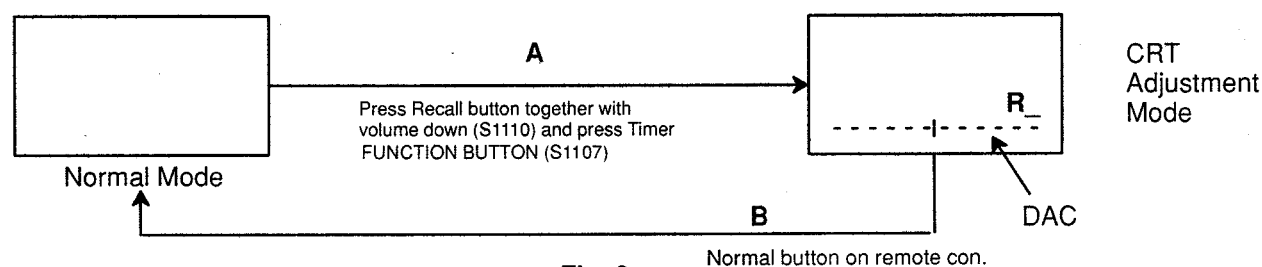

Fig. 9a.
Press the Function button (S1107) to select the required adjustment to be adjusted as shown in Fig. 9a. (Please refer to procedure on page 11).
| <p>CRT CUT-OFF</p> <p>1. Input a flat white Field signal, and set Contrast to maximum.</p> <p>2. Connect an oscilloscope to TPY 1 (Green CRT drive) and TPY 2 (Ground). TPY 1 and TPY 2 are located on the Y-PCB (CRT neck panel).</p> <p>3. Push the Volume Down (S1110) together with RECALL button to enter factory mode & press "TIMER" button on the remote control to select CRT ADJUSTMENT Mode (shown in Fig. 9a on page 7). "CHK" will appear on the screen.</p> <p>4. Press the Function button (S1107) FOUR times to select "BR " (meaning " brightness "). Note that repeated pushing of the Function button cycles through the CRT adjustment as shown in Fig. 16.</p> <p>5. WHILE " BR " IS STILL ON SCREEN, set the screen control to minimum by turning it anti-clockwise, and use the Volume " up " or " down " button – (S1110) and S1111) to set the DC=0V to video level at 140V, as shown in Fig. 17.</p> <p>6. Advance the screen control sufficiently to see the OSD. WHILE " BR " IS STILL ON SCREEN, (push the Function button to bring it up again if necessary), push the "TIMER" button on the remote control. This will collapse the vertical scan.</p> <p>7. Slowly adjust the screen control such that one of the R, G or B beams just appears, across the centre of the screen, (Fig. 19). THIS IS THE SETTING POINT FOR THE SCREEN CONTROL. Note which colour appeared, and DO NOT ADJUST THE LOW-LIGHT SETTING FOR THIS PARTICULAR COLOUR IN THE FOLLOWING PROCEDURE.</p> | <table><tr><th>PRESS S1107</th><th>OSD</th><th>MEANING</th></tr><tr><td>①</td><td>R₋</td><td>RED LOWLIGHT</td></tr><tr><td>②</td><td>G₋</td><td>GREEN LOWLIGHT</td></tr><tr><td>③</td><td>B₋</td><td>BLUE LOWLIGHT</td></tr><tr><td>④</td><td>BR</td><td>SUB BRIGHTNESS</td></tr><tr><td>⑤</td><td>R₊</td><td>RED HIGHLIGHT</td></tr><tr><td>⑥</td><td>B₊</td><td>BLUE HIGHLIGHT</td></tr></table> <p>Fig. 16</p> <p>Operation of the Function Button (S1107) in CRT Adjustment Mode</p>  <p>Fig. 17</p> <p>Sub – bright adjustment</p>  <p>PUSH "TIMER" BUTTON (S1101) WHILE " BR " IS STILL ON SCREEN TO COLLAPSE THE FRAME SCAN.</p> <p>Fig. 18</p>  <p>Fig. 19</p> <p>ADJUST SCREEN UNTIL ONE COLOUR JUST APPEAR.</p> | PRESS S1107 | OSD | MEANING | ① | R ₋ | RED LOWLIGHT | ② | G ₋ | GREEN LOWLIGHT | ③ | B ₋ | BLUE LOWLIGHT | ④ | BR | SUB BRIGHTNESS | ⑤ | R ₊ | RED HIGHLIGHT | ⑥ | B ₊ | BLUE HIGHLIGHT |